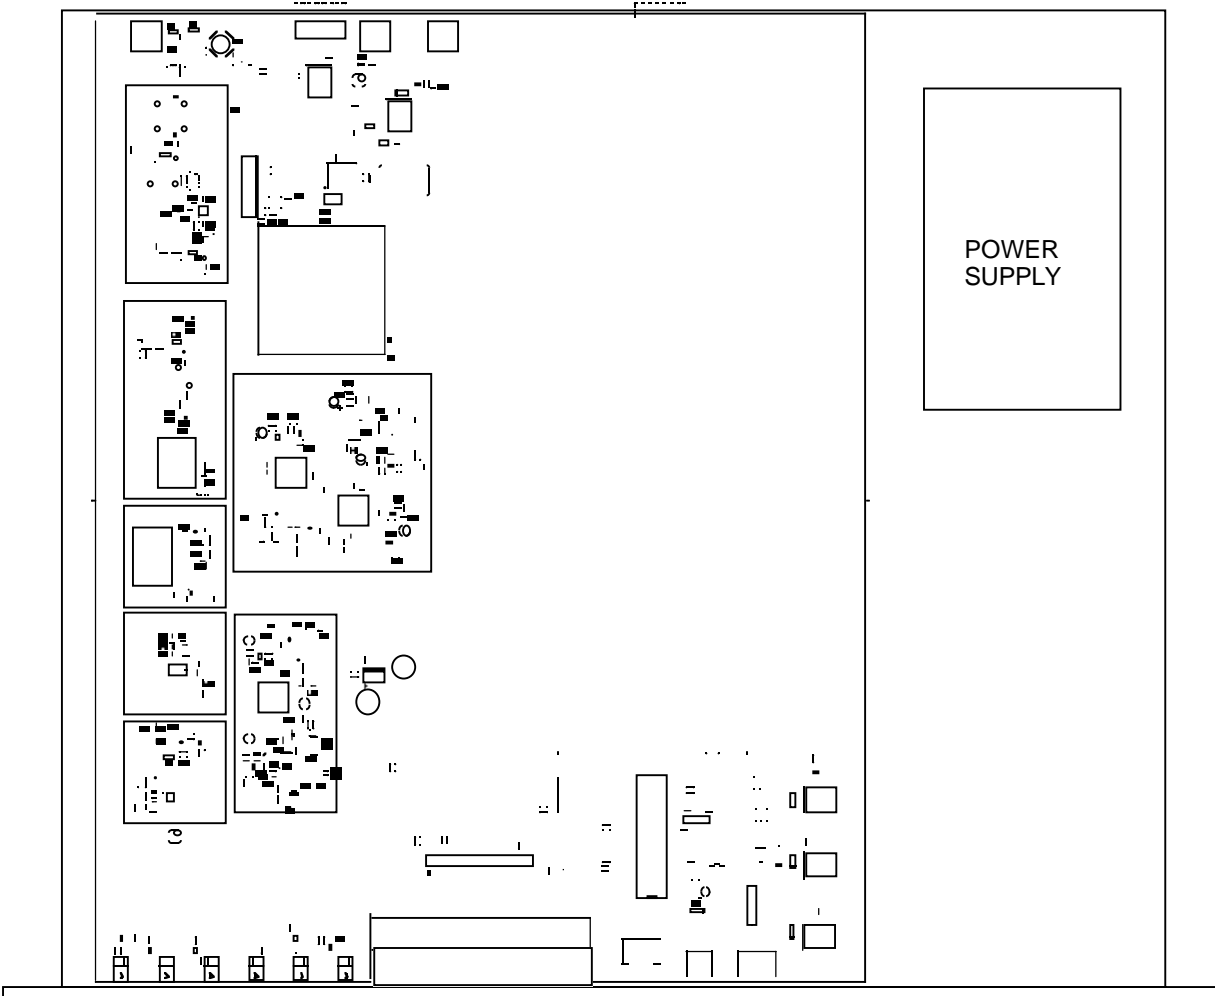

FIGURE 2.0 2015-75 Mechanical Assembly
2.1 Mechanical - The 2015-75 consists of one RF/Controller PCB housed in a 1 RU (1 3/4 inch high) by 16 inch deep chassis. A switching, ± 12 , +24, +5 VDC power supply provides power for the assemblies. The 2015-75 can be secured to a rack using the 4 holes on the front panel. Figure 2.0 shows how the 2015-75 is assembled.